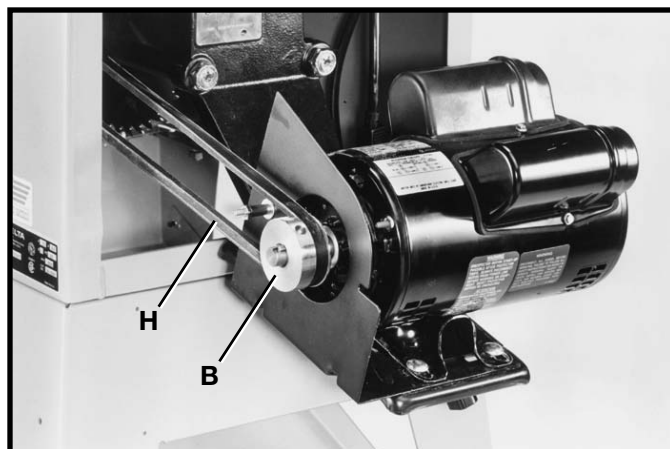

Fig. 23
7. Lift the motor and assemble the drive belt (H) Fig. 23 to the arbor pulley and motor pulley (B). The weight of the motor will provide the correct belt tension.